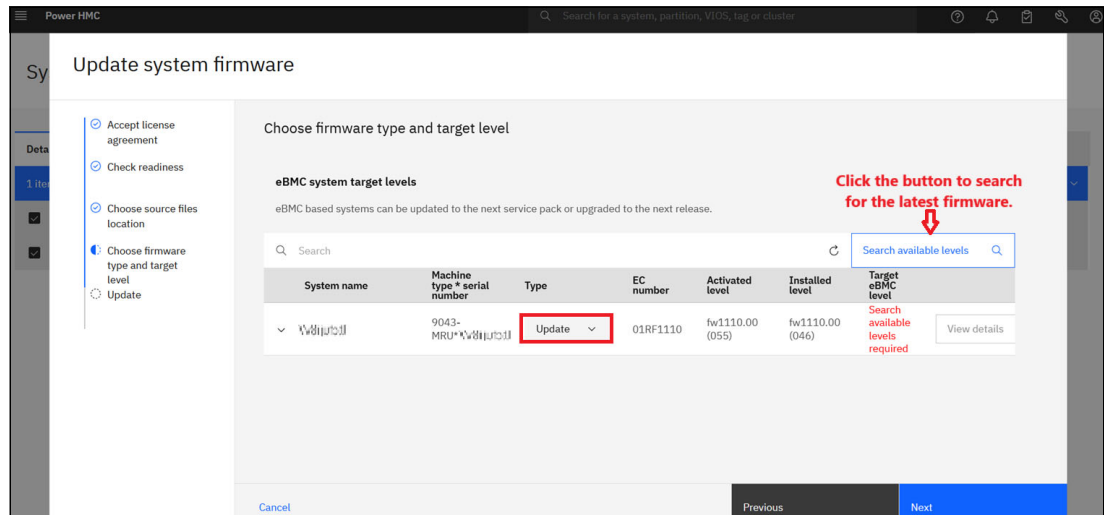

Figure 8-10 System firmware target level selection screen. Use this screen to choose between a firmware update or upgrade.
8. As shown in Figure 8-10 on page 166, click **Search available levels** to locate the new system firmware on the installation media.